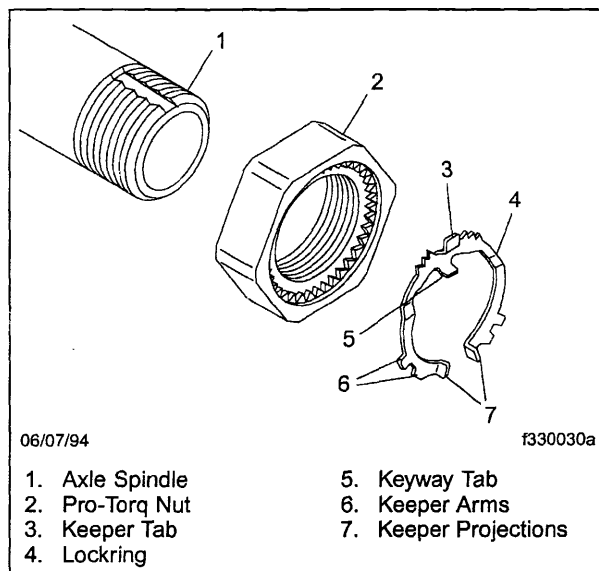

Fig. 4, Pro-Torq Nut System
5. Hold the lockring with the keeper projections facing outboard. See **Fig. 4**.